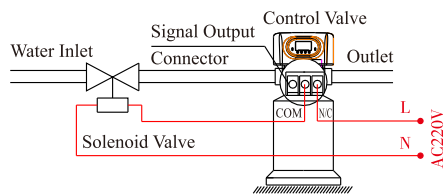
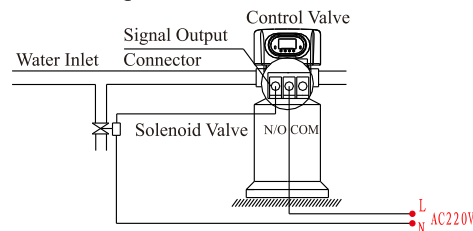

Figure 3-3 Wiring of Solenoid Valve on Inlet
Figure 3-4 Wiring of Pressure Relief Connector
**Instruction:** When inlet pressure exceeds 0.6MPa, install a solenoid valve on inlet. Control mode is b-02. Pressure is relieved when valve switching, the wiring refers to Figure 3-3. As Figure 3-4 shows, it also can use the pressure relief port to work.